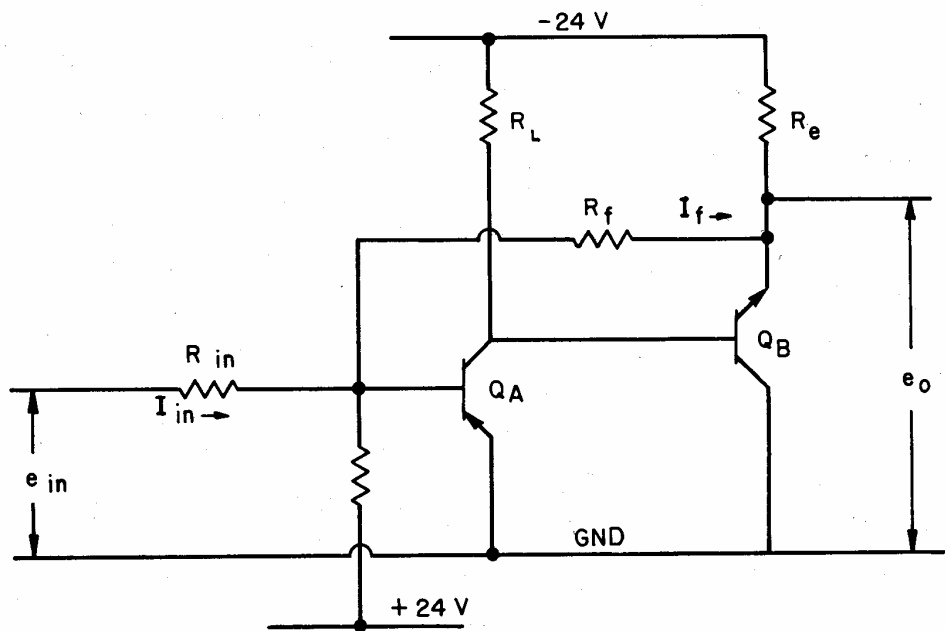

Figure 5-1. Basic Feedback Amplifier Loop
5.1 From Drawings 408-0148-B1 and 408-0148-S1, the following functions can be recognized in the Biased Amplifier: a baseline recovery network consisting of Q1, D2, D3, D4, and Q3 (also called the dc restoration network). Q2 constitutes a dc emitter follower that establishes the bias level at the input to the Biased Amplifier. Q4 is an emitter follower that drives the linear gate section of the Biased Amplifier (Q5 and Q7), and also drives the Schmitt trigger circuit (Q11 and Q12) via the 0.70 limiter (D12, D13, and D14). The linear gate is opened by the application of a positive signal through C4 to the base of Q8, which causes the current switch to transfer its emitter current flowing through R8 from Q6 to Q8. When Q8 conducts the emitter current of the current switch, the base drive current to Q5 is available via R6, and concurrently, base current for Q7 becomes negligible, since the collector of Q8 requires approximately 4 milliamperes. With the current switch conducting current in Q8, it can be seen that Q5, the series element, is in heavy saturation, with the base drive current supplied from R6 flowing into the base through the emitter and back to the base through the emitter of Q4, a low impedance voltage source. Also, Q7, the shunt element in the linear gate, is now back biased and presents a high shunt impedance to signals flowing through the saturated series element, Q5. The output of the linear gate is taken from the collectors of Q5 and Q7. The output of the linear gate is followed by a cascode emitter follower, Q9 and Q10. The output of emitter-follower Q9 and Q10 is fed through a gain control switch and then through two amplifying loops similar to the loops shown in Figure 5-1.
The amplifier loop, Q13-Q14, and the output cable driver loop Q15-Q16 Q17, and Q18, are of the basic type shown in Figure 5-1, with the exception of the diode limiter in the loop Q13-Q14. Notice that the diode limiter in the loop is necessary because the output of Q9 and Q10, the cascode emitter follower, can be equal to 10 volts under the conditions of a 10-volt input signal and a bias level of 000.